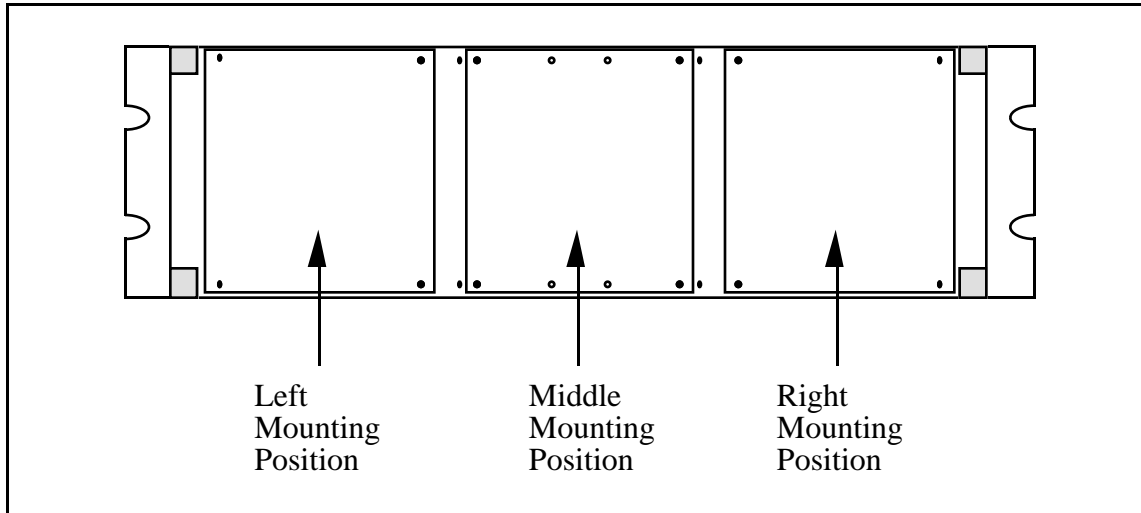

Figure 5-1. Mounting Locations for SC-205X and SC-206X Series Boards
- a. Your SC-206X Series board mounts on one-third of a 19-in. rack chassis. You can mount two SC-206X Series boards alongside any SC-205X Series cable adapter board except the SC-2054 board, which occupies half of the rack chassis. You can mount your SC-206X Series board on the left side, in the center, or on the right side of the 19-in. rack mount as shown in Figure 5-1.